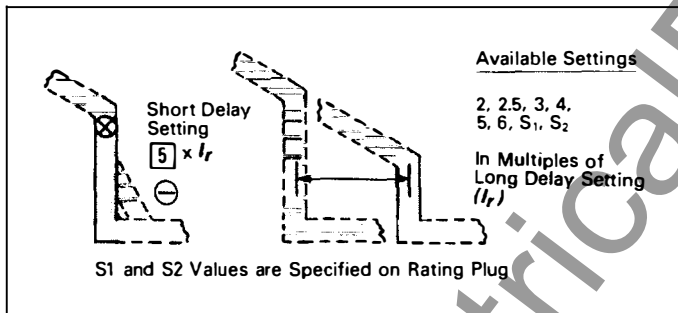

Fig. 4.3 Short Delay Current Settings
There are eight (8) available Short Delay Current Settings, as illustrated in Fig. 4.3. Six settings are in the range from 2 to 6 times I_r , and the other two settings are “S1” or “S2” times I_r . (REMEMBER: I_r is the Long Delay Current Setting). The values that “S1” and “S2” have depend upon the type of circuit breaker, and are specified both on the rating plug label (see Fig. 6), and on the applicable Time-Current Curves referenced in Section 9.0.